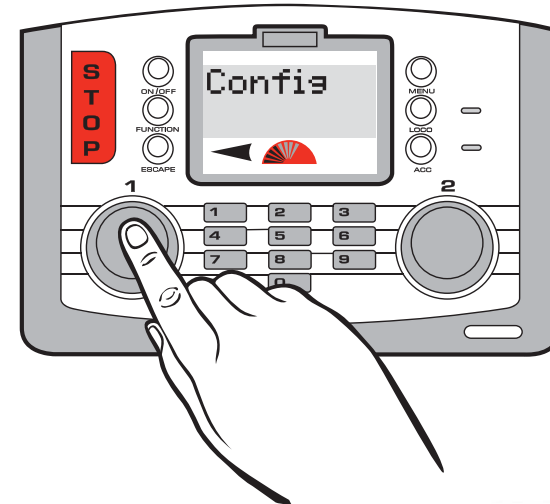

Fig 1
9. Press **Control 1** six times to skip further options. Screen shows "**Config**". See Fig 1.